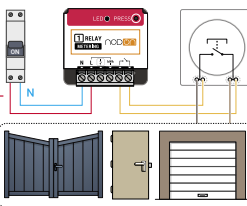

Figure 3
- 3 Wire the Zigbee Multifunction Relay Switch with metering, in parallel to the push-button following the diagram figure 3.